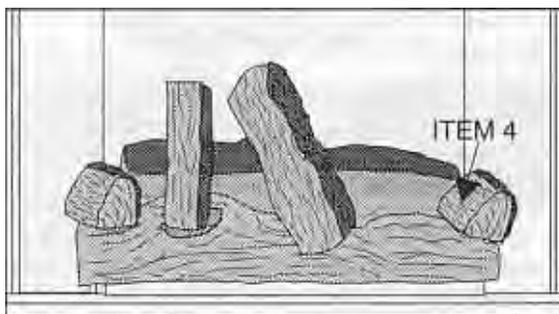

Figure 56
7. See Figure 56 The third small straight log (Item 4) is installed next. Position this log with the "bark" to the right. Place one end of the log in the indentation on the far right of the Front Log. The opposite end will lay on the back log support, right of the Back Log.